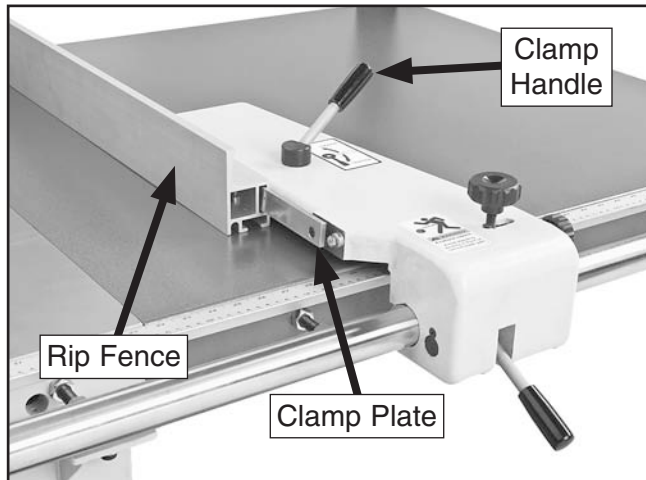

Figure 36. Installing the rip fence.
38. Loosen the fence clamp handle (see **Figure 36**), then slide the fence onto the T-slot plates and the clamp plate so that the tall side of the fence is facing the blade.